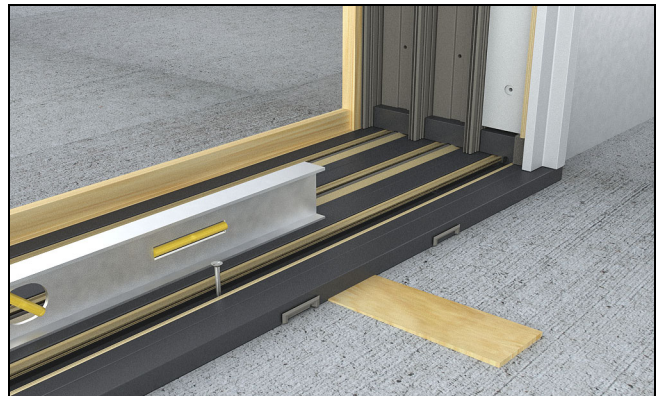

Figure 67
2. Place the frame into the opening and position. Begin to install anchor screws to secure the sill. See figure 67. After installing a few anchor screws, place a level on the sill and begin the sill leveling process, making sure that the sill is level. *NOTE: If sill has to be shimmed, the distance between shims should be 12" on center maximum.*